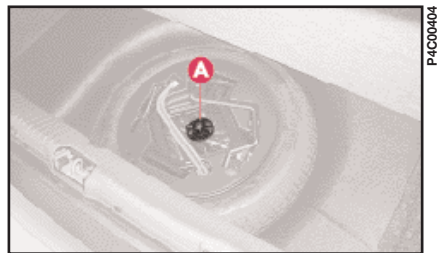

fig. 8
– Arrange the support and close the fastener A (fig. 8).